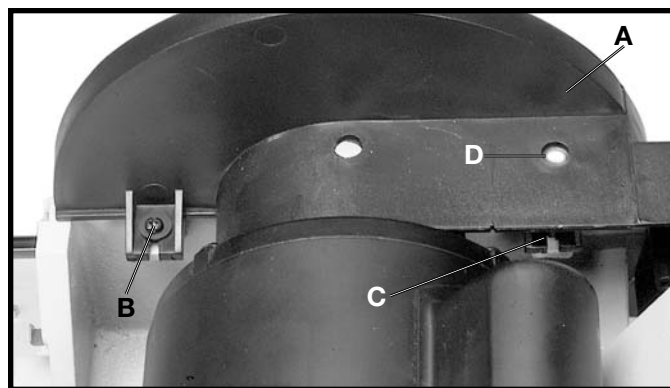

Fig. 5
2. Position the guard (A) Fig. 5, in place on the disc unit frame and fasten in place using the two M4X10mm cheese head screws (B) and (C) and two 3/16" flat washers. **NOTE:** Access to screw (C) is through hole (D) in top of guard. Do not completely tighten screws (B) and (C) at this time as the guard must be adjusted to sanding disc plate.